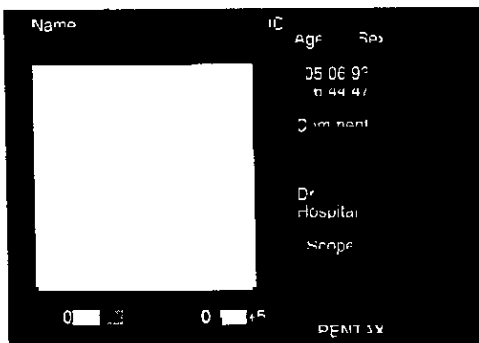

Fig. 33
There are eleven (11) brightness levels. The brightness level will be display as a value -5 to +5 on the monitor display (Fig. 33) and the brightness indicator on the front panel.